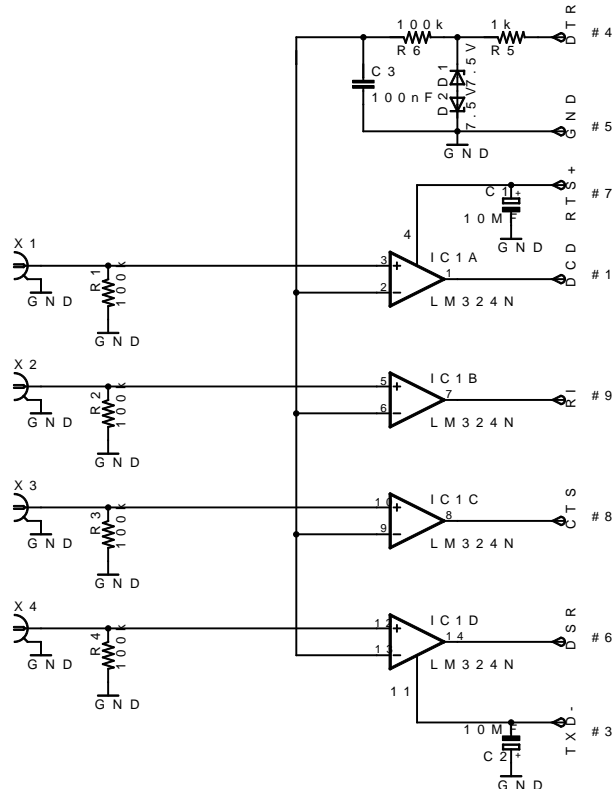

Figure 4: 4ch ADC using time interval
1. Measured analog voltages can also be compared to a variable voltage on a capacitor instead of DAC we used previously. The concept of charging a capacitor was covered in the class. Note RS232 outputs bipolar voltages that are conditioned by using two 7.5V Zener diodes to $\pm 8V$ max (Figure 4).